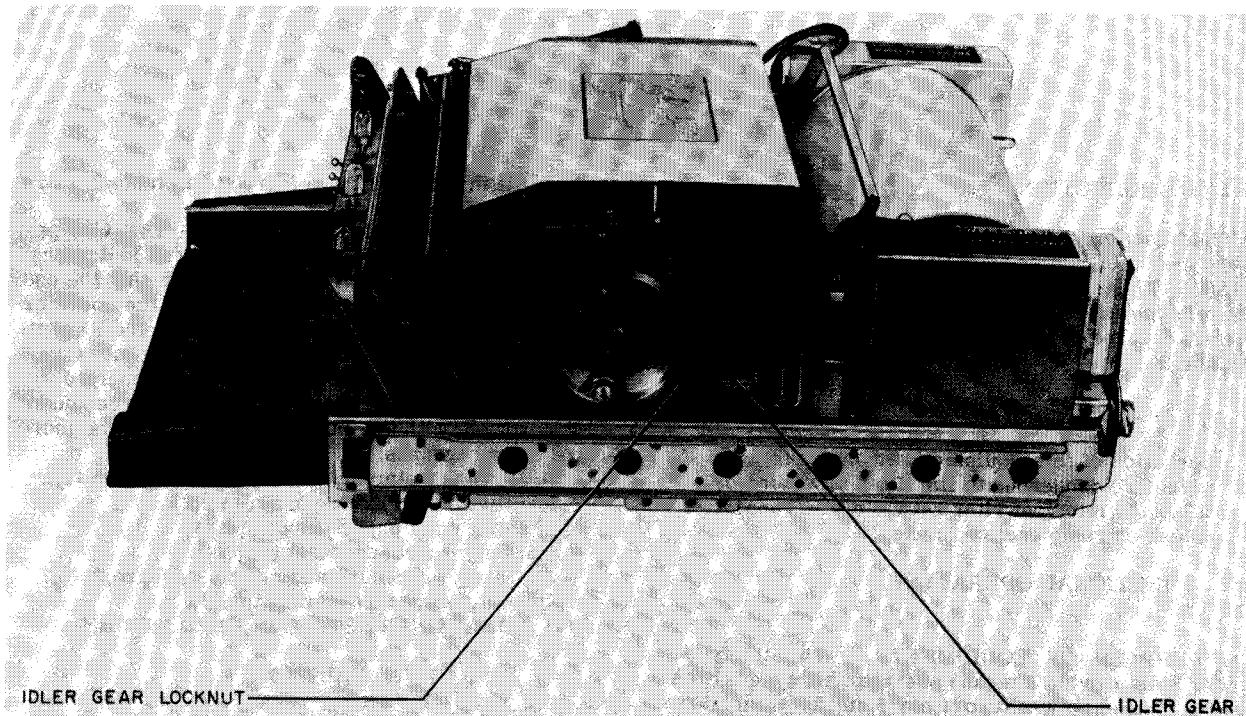

Figure 2-21. Printer and Electrical Chassis, Right-Side View
Step 1. Loosen the idler gear locknut (figure 2-21) and allow the idler gear and locknut to swing away from the speed change gear.